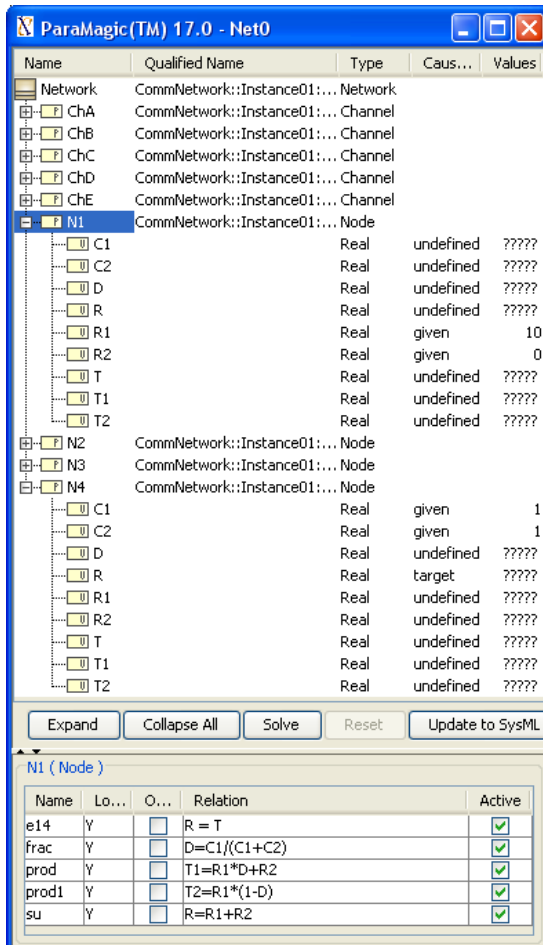

Figure 5.15 Browser for Instance01 before solution
9. In Figures 5.15 and 5.16, only a few of the output variables are expanded to display. All of the values are available, however.